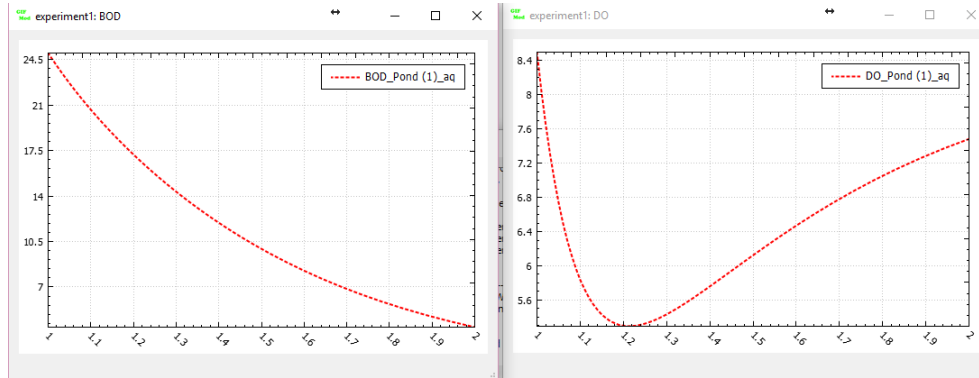

Figure 2: Prediction of BOD and DO variation as a result of forward simulation
- **Run the model in forward:** You can now save the model and run it in forward mode and check the predicted DO and BOD concentration variation during the simulation period. The results should look like figure 2.
- * **Location:** *Pond (1)*